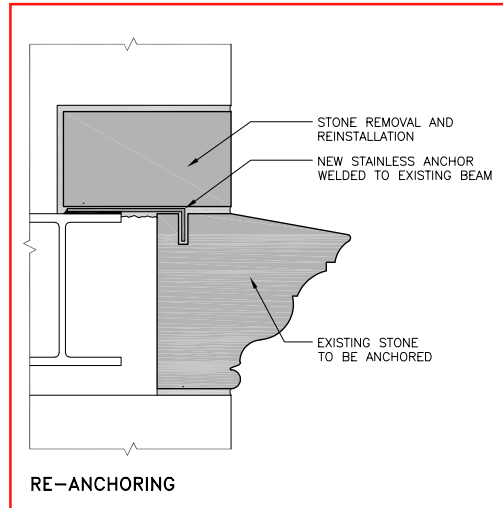

Figure 2
**Re-anchoring** is usually necessary when movement of the stone from its original position has broken existing anchors or fractured the back of the stone. (Figure 2)